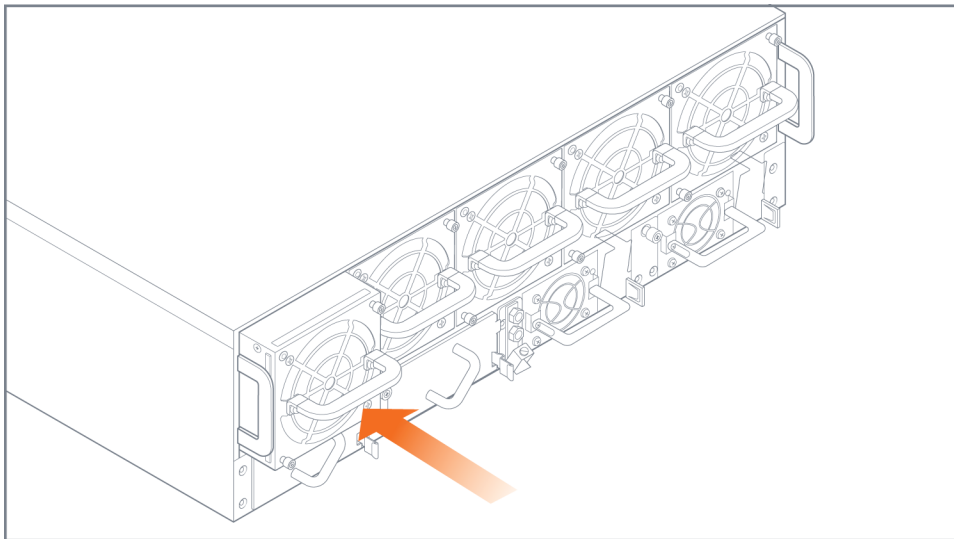

Figure 14 Fan Module Insertion
4. Insert the fan modules into the fan tray one at a time, as shown in Figure 14 Fan Module Insertion.